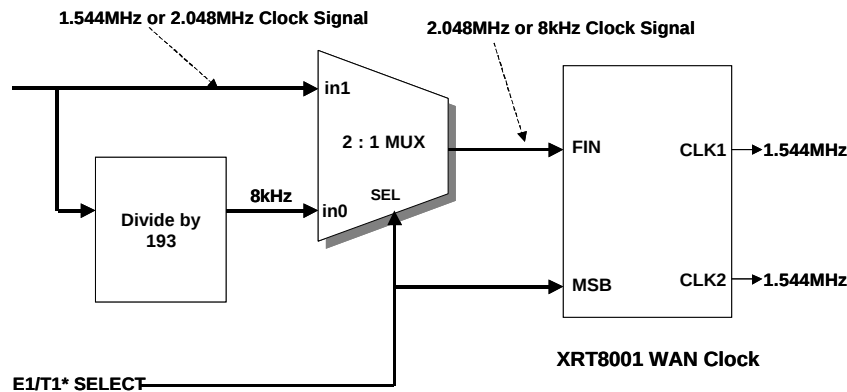
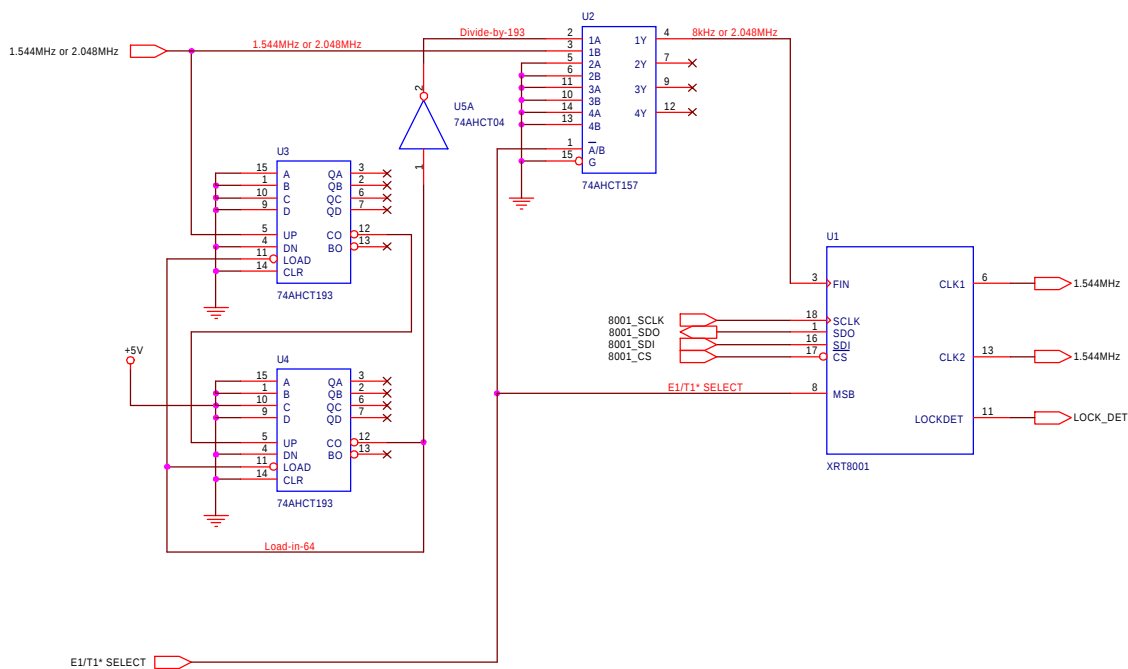

Figure 23: Synthesizing a 1.544MHz clock signal from a 1.544MHz or 2.048MHz clock
Figure 24: Hardware Design Implementation of Figure 23.
In Figure 23, the 1.544MHz or 2.048MHz input clock signal is routed to two locations.
Figure 23 also includes a digital “E1/T1* SELECT” signal. This signal is connected to both the “SEL” input of the “2:1 MUX” and the “MSB” input of the XRT8001 WAN Clock. The basic idea behind this schematic is as follows:
Figure x presents a simple block diagram of a design that can accept either a 1.544MHz or a 2.048MHz clock signal, and synthesize a 1.544MHz clock signal. Now we need to provide some details. Hence, Figure 24 presents a circuit schematic which realizes the function, depicted in Figure 23.
Next, we describe how to configure the circuitry in Figure 24 to accept a 2.048MHz clock signal, and configure it to synthesize a 1.544MHz clock signal by executing five steps. We also describe how to accept a 1.544MHz clock signal and configure it to synthesize a 1.544MHz clock.
9.2 Configuring the Circuitry in Figure 24 to accept a 2.048MHz clock in order to synthesize a 1.544MHz output clock.
Configuring the Circuitry in Figure 24 to accept a 1.544MHz clock signal and synthesize a 1.544MHz clock signal.
The user can configure the circuitry (within Figure 24) to accept a 1.544MHz clock signal, and synthesize a 1.544MHz clock signal, by executing the following four (4) steps.
Once the user has executed these four (4) steps, then the circuitry in Figure 24 is configured to accept a 1.544MHz clock signal (from the T1/E1 LIU) and synthesize a 1.544MHz clock signal.